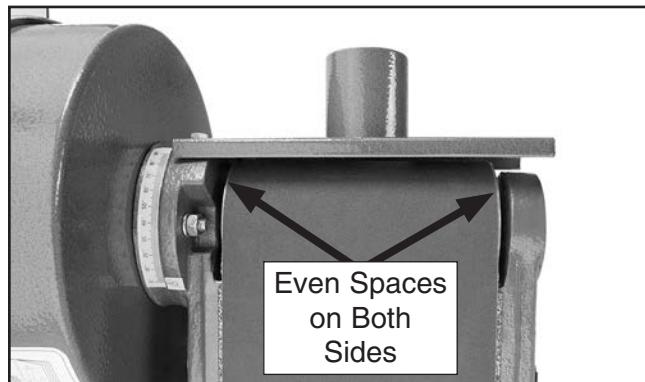

Figure 43. Example of sanding belt centered on main roller.
4. Adjust the tracking with the tracking control knob and continue to rotate the belt by hand until the sanding belt is centered on the main roller, as shown in **Figure 43**.
7. Loosen the lock nut on the tracking control knob, and carefully adjust the tracking in small increments toward the front or back of the sander frame until the sanding belt remains centered on the main roller (see **Figure 43, Page 27**).